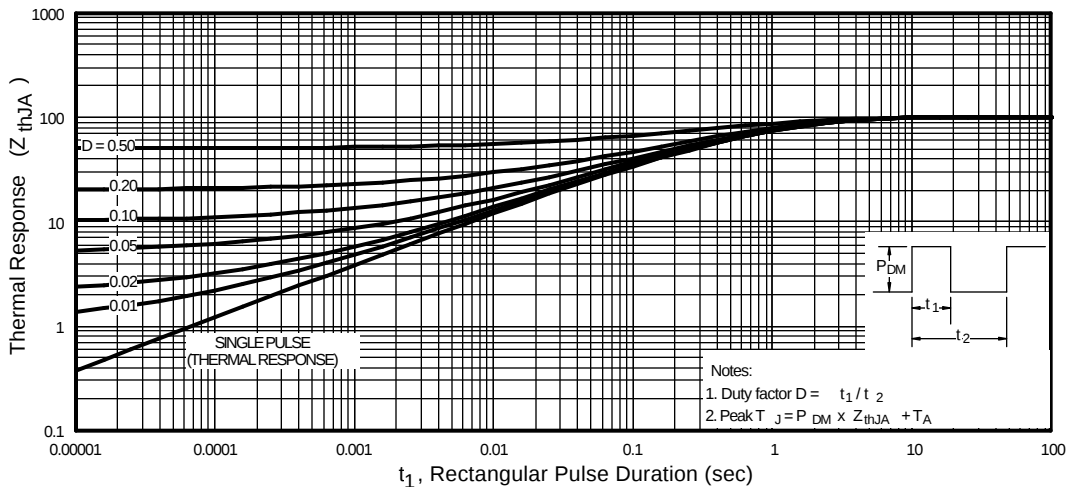

Fig 11. Maximum Effective Transient Thermal Impedance, Junction-to-Ambient
① Repetitive rating; pulse width limited by max. junction temperature. (See fig. 11)
③ Pulse width $\leq 300\mu s$; duty cycle $\leq 2\%$.
② $I_{SD} \leq -1.2A$, $di/dt \leq 100A/\mu s$, $V_{DD} \leq V_{(BR)DSS}$, $T_J \leq 150^\circ\text{C}$
④ Surface mounted on FR-4 board, $t \leq 10sec$.